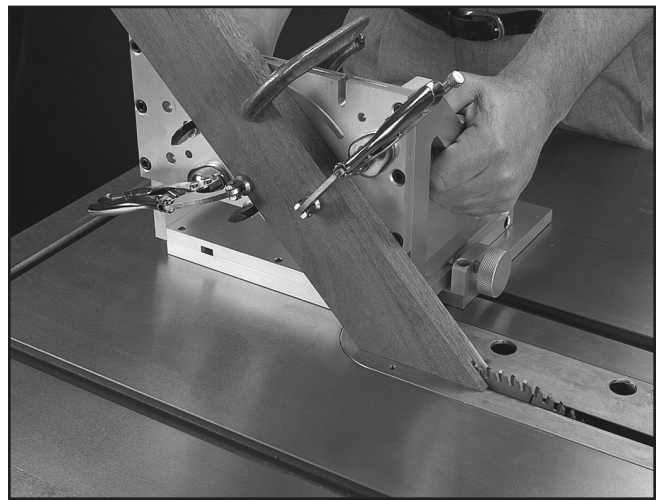

Figure 10. Angled clamping for spline jointing on a table saw.
3. Standard C-clamps can be used anywhere on the face plate to secure your workpiece. Figure 10.